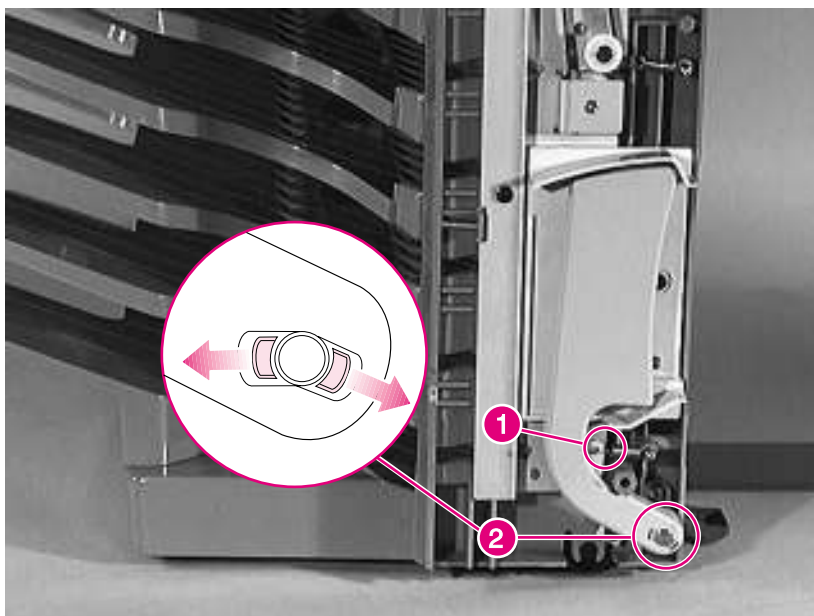

Figure 6-148 7-bin Tabletop Mailbox Handle
- 1 Remove the 7-bin Tabletop Mailbox Handle (figure 6-148).